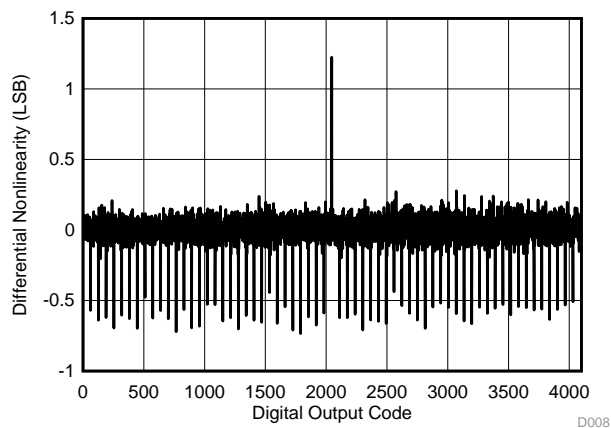

Figure 5-7. SoC ADC, Differential Nonlinearity vs Digital Output Code
(1) Using IEEE Std 1241™ 2010 for terminology and test methods.
(2) Input signal scaled down internally before conversion, as if voltage range was 0 to 4.3 V. Applied voltage must be within the absolute maximum ratings (see Section 5.1) at all times.
(3) No missing codes. Positive DNL typically varies from 0.3 to 1.7, depending on the device (see Figure 5-7).